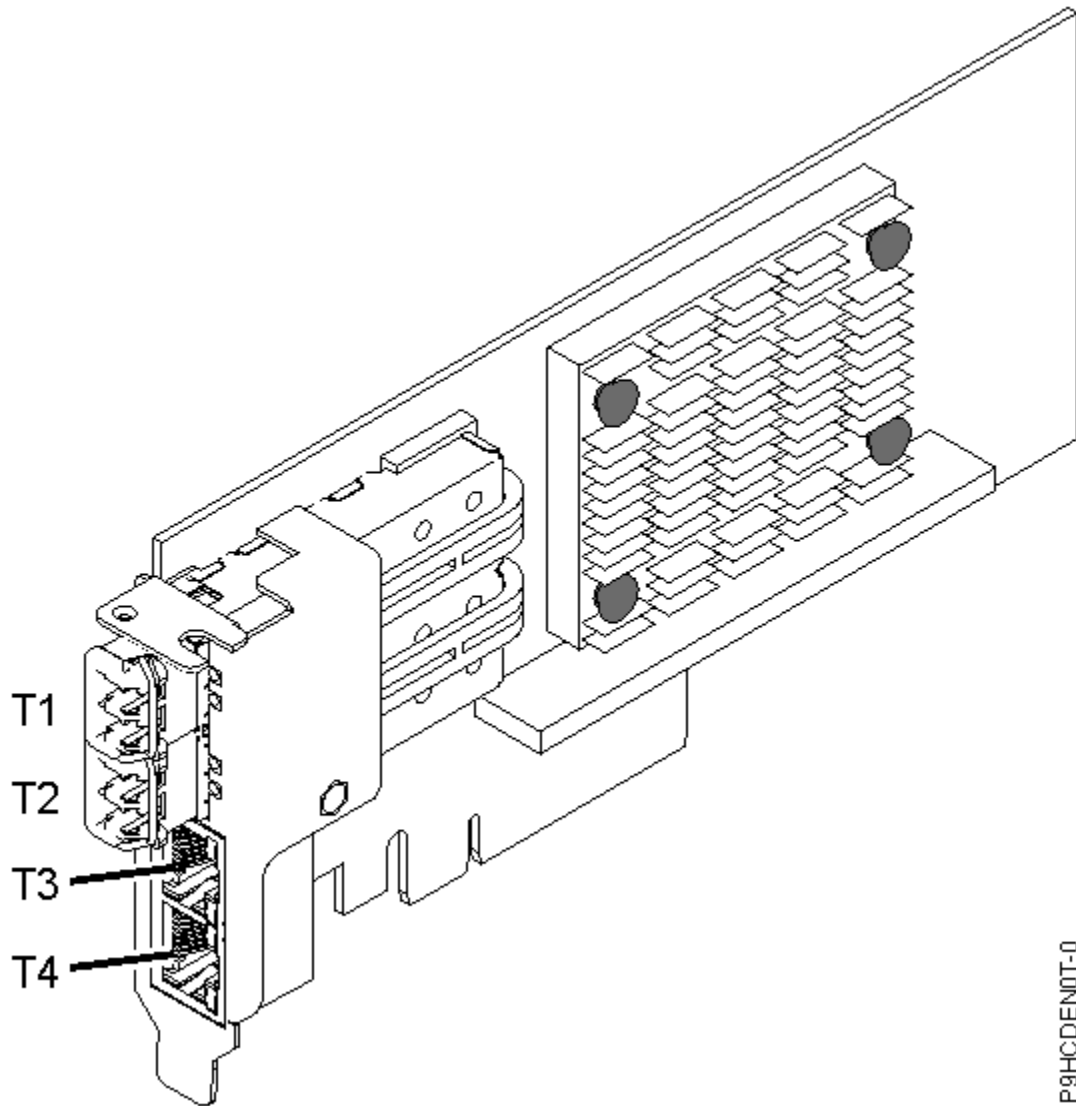

Figure 53. PCIe3 LP 4-Port (10Gb+1GbE) SR+RJ45 Adapter
The four-port adapter provides two 10 Gb small form-factor pluggable (SFP+) optical SR transceiver ports and two 1 Gb RJ45 Ethernet ports. The two 10 Gb SR ports have little connector (LC) duplex-type connectors. The optical transceiver uses shortwave laser optics and is attached with MMF-850nm fiber cabling with LC connectors. See “Cables” on page 90 for more information about the optical cables. Each 10 Gb port provides Ethernet connectivity with a nominal data rate of 10 Gbps (gigabits per second). Figure 53 on page 89 shows the FC EN0T adapter.